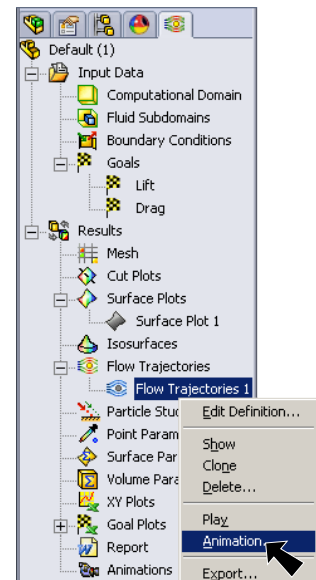

Fig. 33
Step 2. **Right** click **Flow Trajectories 1** in Flow Simulation tree and click **Animation**, Fig. 33.